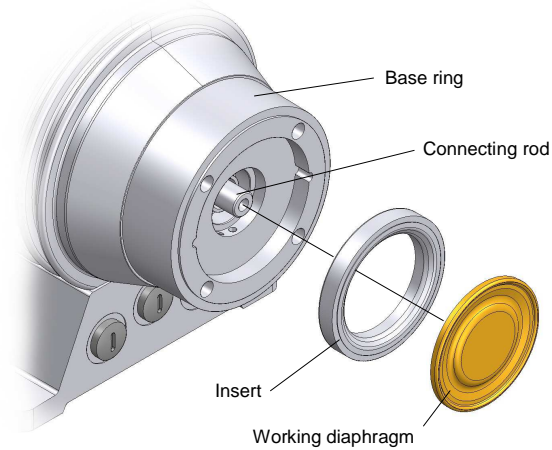

Fig. 43 (Disassembly of working diaphragm)
- Unscrew working diaphragm from connecting rod (see Fig. 43)